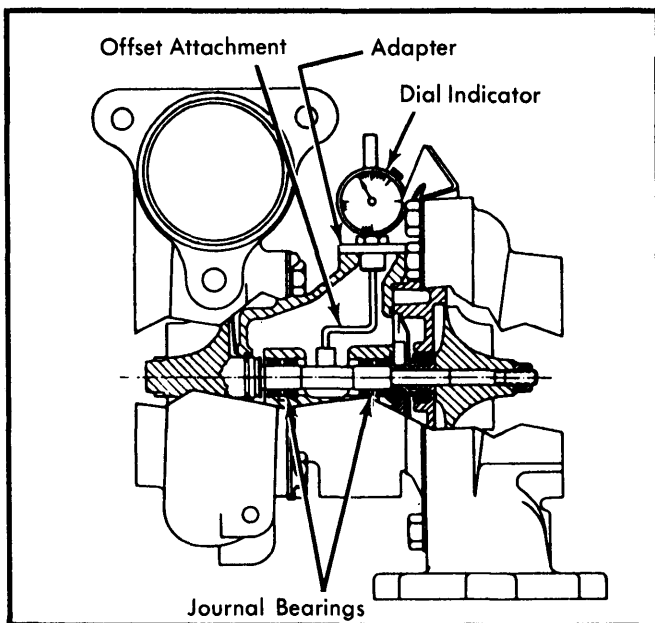

Fig. 5 Checking Journal Bearing Clearance With Dial Indicator
- b. If required, a dial indicator mounting adapter can be utilized. See Fig. 5.